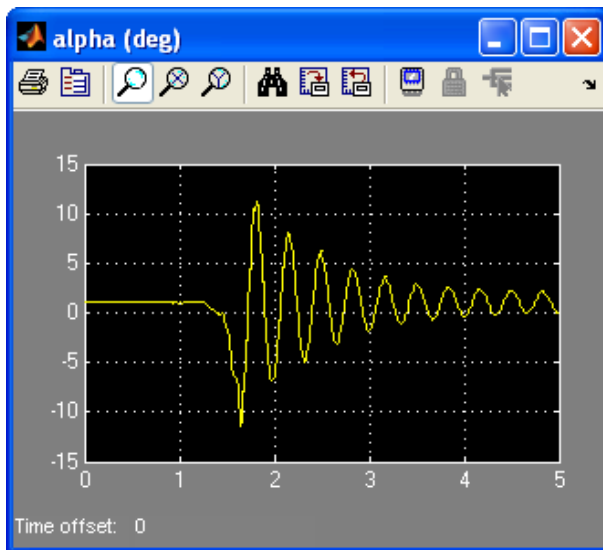

Figure 2.5: Typical Flexible Link Free-Oscillation Response
2. Hold on the SRV02 load gear, go to QUARC | Start to run the controller, and then immediately perturb the flexible link. Keep holding the SRV02 base until the controller is done collecting the data. The *alpha (deg)* Scope should be reading a response similarly as shown in Figure 2.5. Note that the controller is set to run for 5 seconds.